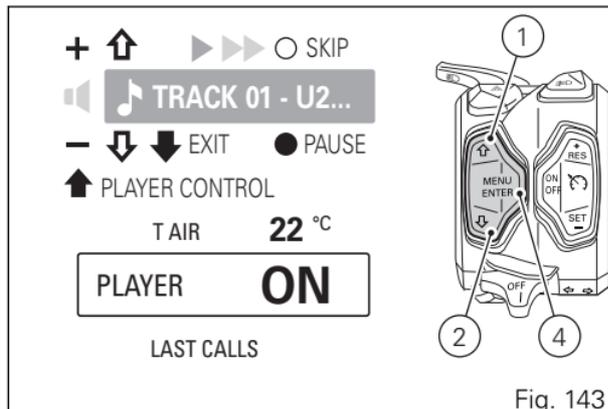

Fig. 143
Press button (4) to switch it on. The instrument panel shows "PLAYER ON" and displays the Player menu above the Menu (Fig. 143).
When the Player is turned on, within Player control page (Fig. 143), button (1), button (2) and button (4) can only be used to control the Player:
- Volume up: Press button (1) once.
- Volume down: Press button (2) once.
- Pause / Play: Press button (4) for 2 seconds.
- Skip / Next track: Press button (4) once. Each press corresponds to a track skipped.